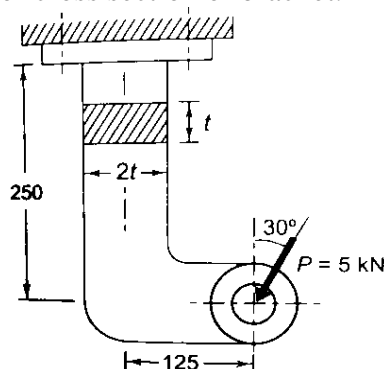

Fig.1
- (c) A bracket made of steel (yield strength of 200 MPa) and subjected to force of 5 KN acting at 30 degree to vertical as shown in fig 1. The factor of safety is 4. Determine dimension of cross section of bracket.